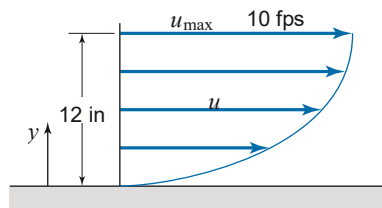

Figure X2.11.11
- 2.11.11** Assuming a velocity distribution as shown in Fig. X2.11.11, which is a parabola having its vertex 12 in from the boundary, calculate the velocity gradients for  $y = 0, 3, 6, 9$ , and 12 in. Also calculate the shear stresses in  $\text{lb/ft}^2$  at these points if the fluid's absolute viscosity is 600 cP.